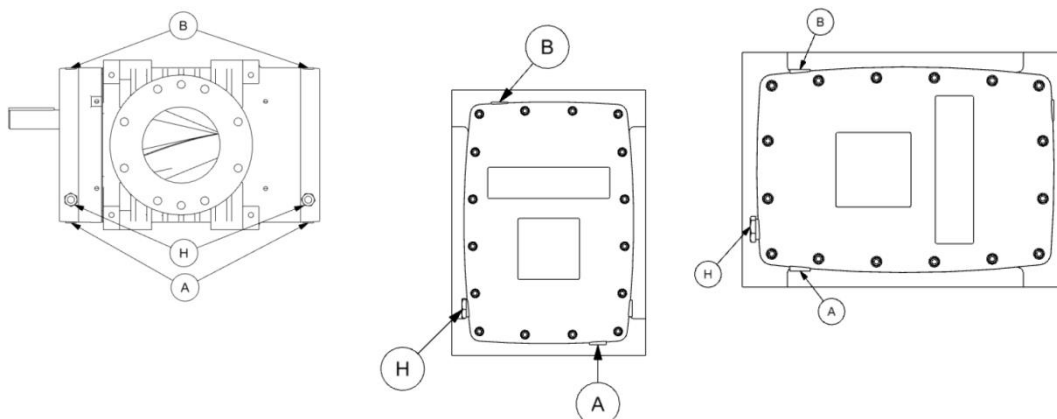

FIGURE 3-1 – LUBRICATION
When changing mounting configuration, it will be necessary to reposition oil level gauge (H), and drain plug (A). Refer to FIGURE 3-1, page 14, for correct location.
Refer to FIGURE 3-1. While the blower is not running remove the plug (B) from each sump. Add oil to each sump until it reaches the middle of each oil level sight gauge (H). Secure the plug (B) in each end.